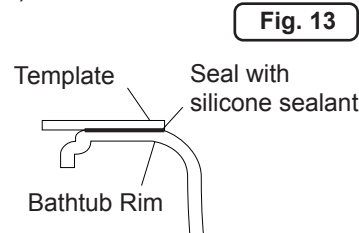

**Fig. 12**
- Measure the distance from the wall, or other fixed point, to the center lines (Figure 12).